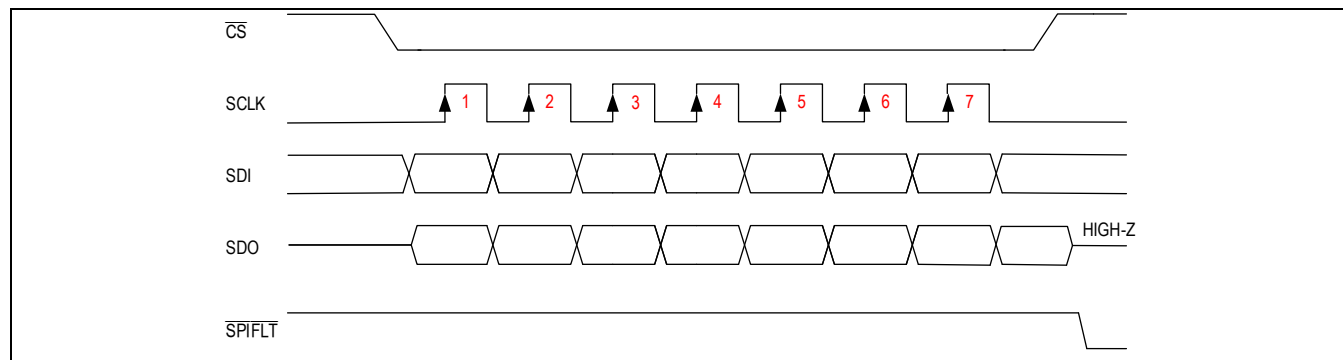

Figure 7. $\overline{\text{SPIFLT}}$ Signaling Due to Incorrect Number of SCLK Pulses
- The number of SCLK pulses sent by the SPI controller is not a multiple of 8 (see Figure 7).